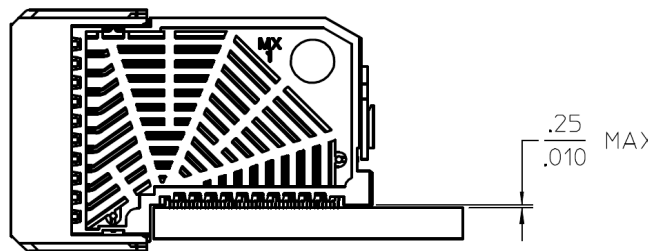

Figure 3
3. Using the application tool and an appropriate press, seat the module until there is less than 0.25mm (0.01 in) clearance between the bottom of the plastic housing and the surface of the PCB. See Figure 3.